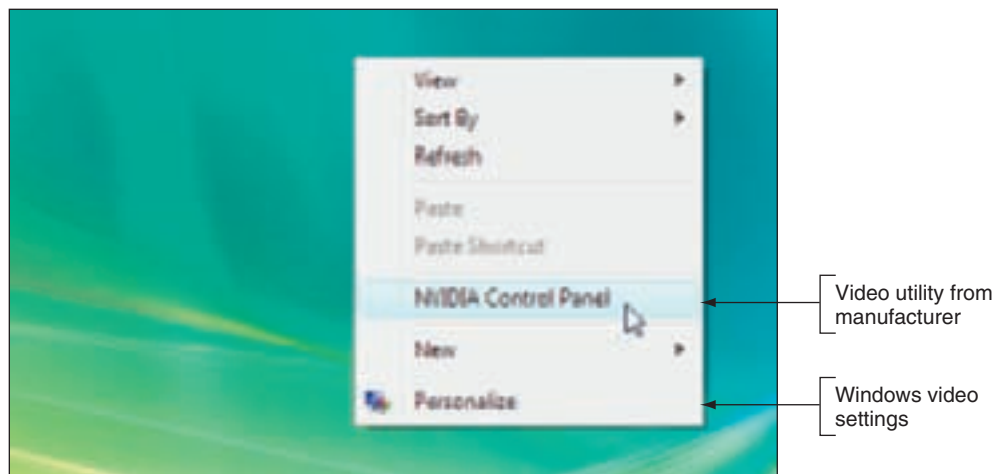
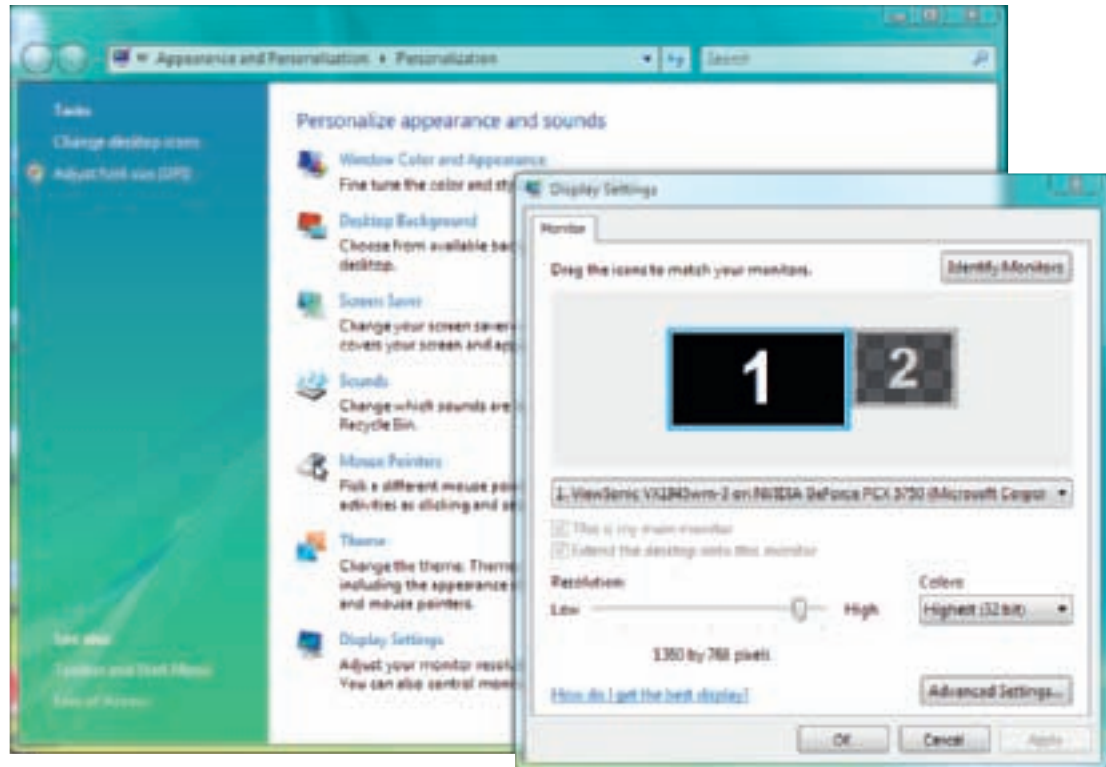

Figure 9-21 Two options are available on this system to adjust display settings
Figure 9-22 Use the Display Settings box to adjust screen resolution
Monitor and video card settings can be changed by using Windows tools or by using the manufacturer's video card utility that was installed at the time the manufacturer's video card drivers were installed. If this utility is installed, you can access it by right-clicking the desktop and selecting the utility from the shortcut menu. For example, in Figure 9-21, the utility is named NVIDIA Control Panel. Manufacturer drivers for a video card are optional because Windows has its own embedded video drivers. However, for best performance of the card, always install the manufacturer drivers. You will learn how to do this later in the chapter.
1. Right-click the Windows desktop and select **Personalize** from the shortcut menu (see Figure 9-21). The Personalization window opens. Click **Display Settings**. (Alternately, you can open the Control Panel and click **Adjust screen resolution**.) The Display Settings dialog box opens (see Figure 9-22).
- ▲ If the native resolution is not listed in the List All Modes box, you can build a customized resolution. The option might be available if a video utility was installed with the video adapter card and the utility includes this option. Right-click the desktop and look for the utility in the shortcut menu (refer back to Figure 9-21). Open the utility and look on the utility window for the option to create a